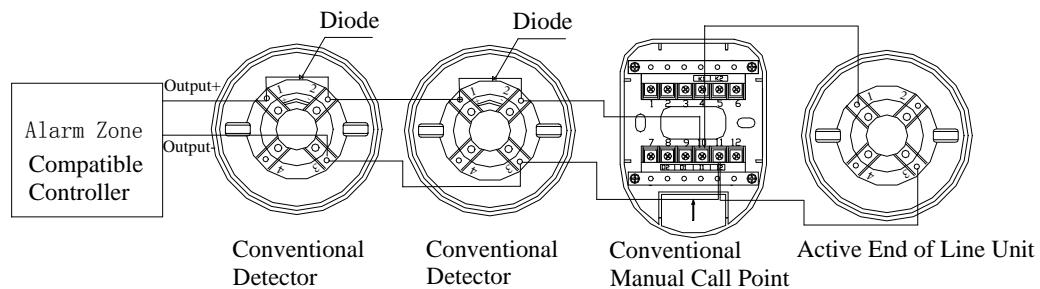

Fig. 5 System wiring
1. When P-9907 Active End of Line Unit is connected to the end of output loop, an IN5819 Diode should be connected to the detector base. The active end of line unit can be used as a detector base, that is, a conventional detector can be installed on it. System composition is shown in Fig. 5.